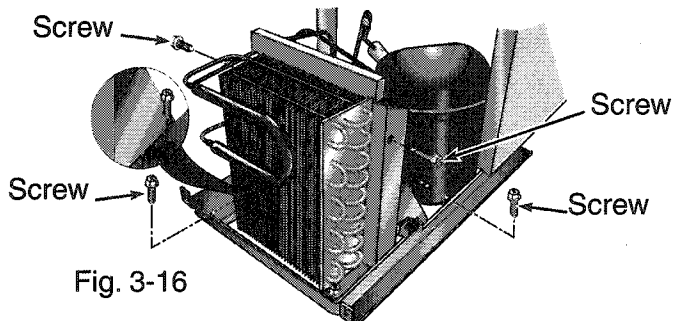

Fig. 3-16
1. Remove the two (2) Hex-Head screws securing the condenser fan assembly to the condenser and the two (2) Hex-Head screws securing the condenser fan assembly to the component compartment base. (Fig. 3-16)